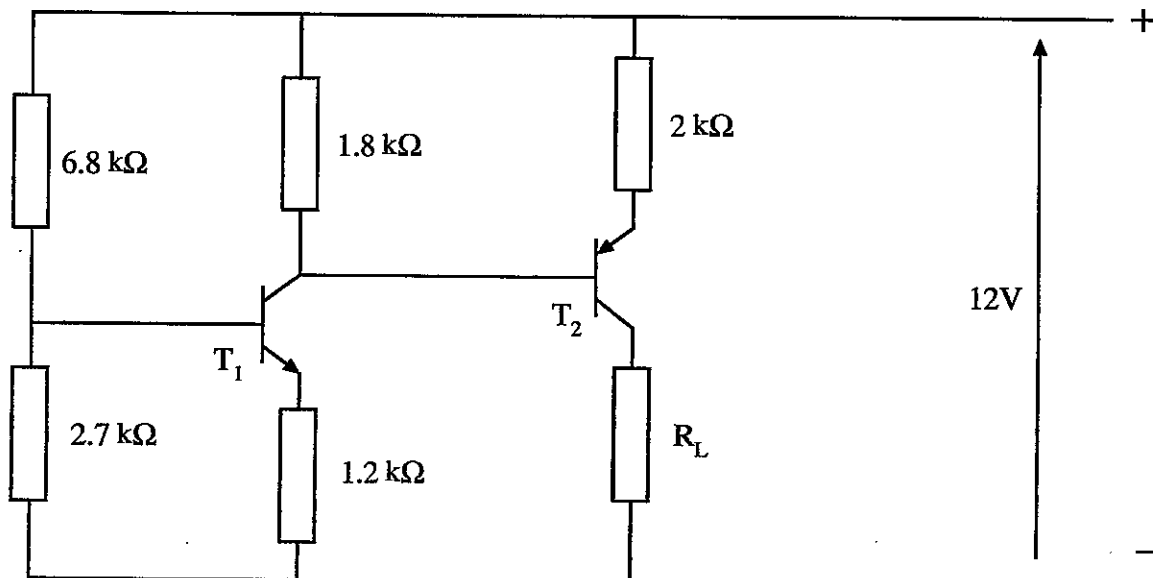

Fig Q3
- the supply current; (8)
- the effective resistance of the non-linear element; (4)
- the power dissipated in the  $27\text{k}\Omega$  resistor. (4)
3. Fig Q3 shows a two stage small signal amplifier using transistors of high gain whose base currents may be ignored. Transistor  $T_1$  has a volt drop of  $0.6\text{V}$  between base and emitter and transistor  $T_2$  has a volt drop of  $0.3\text{V}$  between base and emitter.